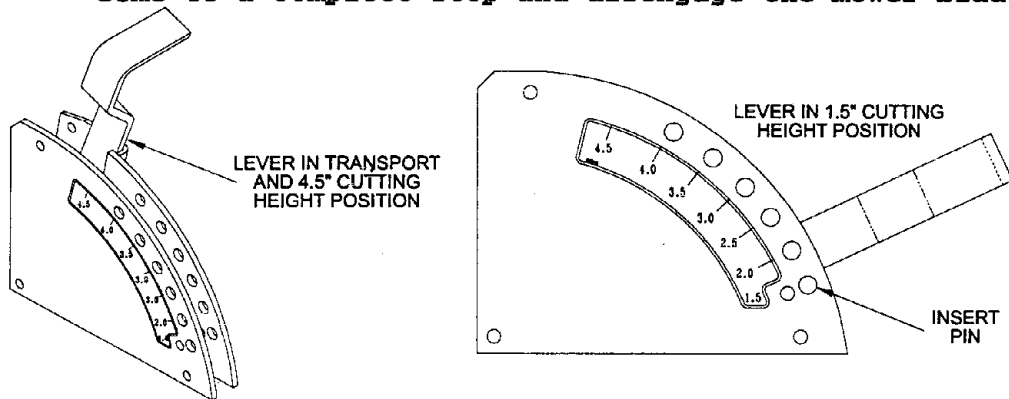
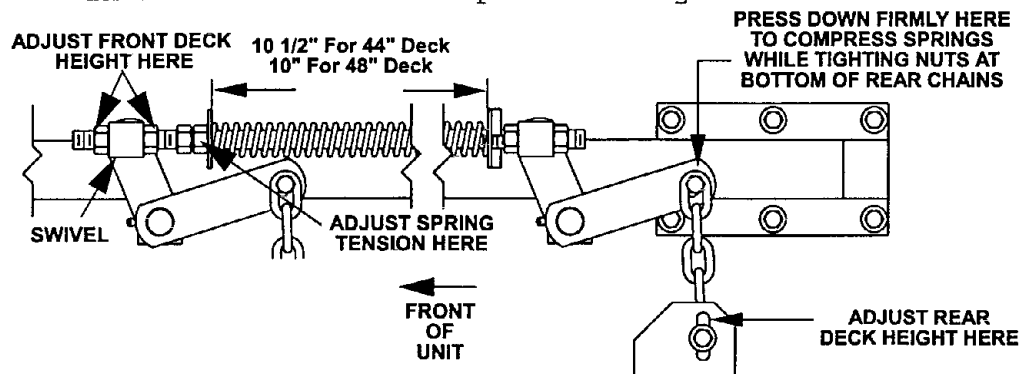

FIG. 5
FIG. 7
- c) Raise the deck lever to the transport position (also the 4.5" cutting height position). See Fig 5.
- Check tire pressure of all four (4) tires. If needed, adjust to 13 psi (90 kPa).
- Raise the deck to the 4.5" height position and take as much force as possible off of the two large deck lift springs by loosening the nuts at the front of each spring. See Fig. 7.
- Loosen the two (2) bottom chain bolts in slots at the rear of the cutting deck. Loosen four (4) nuts which secure front swivels (two per side), until front chains are loose and front of deck is supported by the 1-1/8" block. Do not loosen front chain hardware.
- When hardware is loosened, remaining tension in the large support springs will tend to rotate the deck lift handle up, out of the 1 1/2" position. Press down on the rear deck support arm (as shown in Fig. 7) to firmly return the deck lift handle to the 1 1/2" position. **DO NOT** push on deck lift handle. While continuing to press down, take the slack out of the rear chains and tighten hardware at the bottom of the rear chains. Downward pressure may now be released.
- k) Raise deck lift lever to the 4.5" cutting height position (also transport position, See Fig 5. Adjust spring compression until proper distance is obtained between the two washers (See Fig 7) by turning the nut at the front of each spring. Lock nuts in position with jam nuts.